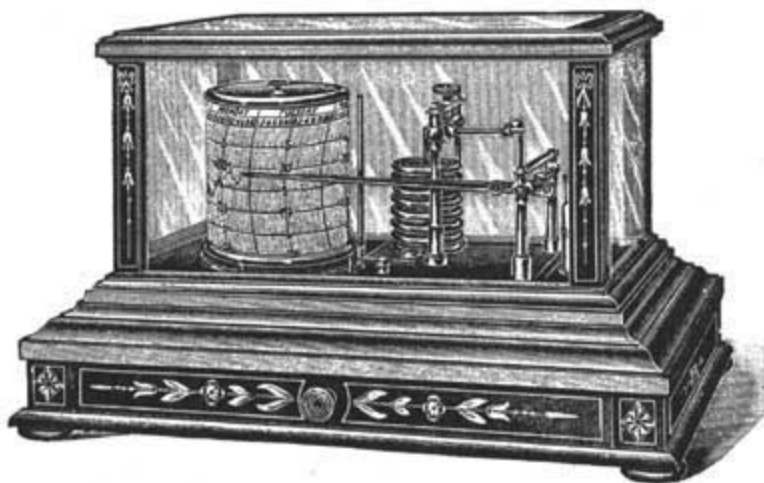

FIG. 48.—Barograph.
81. Use of the Barometer. Changes in air pressure are very closely connected with changes in the weather. The barometer does not directly foretell the weather, but a low or falling pressure, accompanied by a simultaneous fall of the mercury, usually precedes foul weather, while a rising pressure, accompanied by a simultaneous rise in the mercury, usually precedes fair weather. The barometer is not an infallible prophet, but it is of great assistance in predicting the general trend of the weather. There are certain changes in the barometer which follow no known laws, and which allow of no safe predictions, but on the other hand, general future conditions for a few days ahead can be fairly accurately determined. Figure 48 shows a barograph or self-registering barometer which automatically registers air pressure.